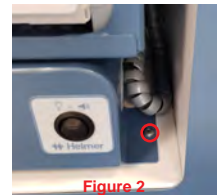

Figure 2
8. Hand thread the screws through the bracket and into the mounting surface. Secure using a #2 Phillips screwdriver (*Figure 2*).